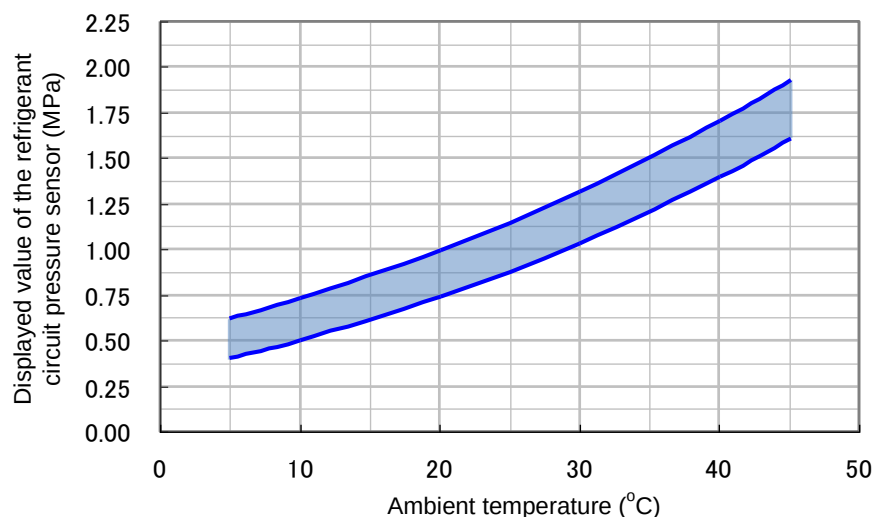

Fig. 3.3-16 Ambient temperature and refrigerant circuit pressure
- (1) Leave the Thermo-Chiller not operating for 24 hours to make the ambient temperature and the temperature inside the Thermo-Chiller the same.
- (2) Check the ambient temperature.
- (3) Check the "Ph: Refrigerant circuit pressure on the high pressure side" value in the "Check Monitor Menu".
- (4) Check if the value at the cross point of the ambient temperature and the "Ph: Refrigerant circuit pressure on the high pressure side" value is within the range (the shaded part) in Fig. 3.3-16. If the cross point is within the range, it means that the pressure sensor is operating correctly.
- (3) Check "PL: Refrigerant circuit pressure on the low pressure side" value in the "Check Monitor Menu".
- (4) Check if the value at the cross point of the ambient temperature and the "PL: Refrigerant circuit pressure on the low pressure side" value is within the range (the shaded part) in Fig. 3.3-16. If the cross point is within the range, it means that the pressure sensor is operating correctly.